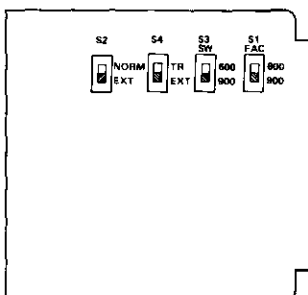

figure 2. 7011 and 7011A option switch locations
3.05 Four switch options must be set before the 7011 and 7011A can be placed into service. Two of these switches, S1 and S3, select the port impedance toward the key-system or PBX line circuit. The other two switches, S2 and S4, select ringing options for the station. The locations of these switches on the module's printed circuit boards are shown in figure 2. Table 2 provides a brief explanation of the function and setting of each switch. Table 2 also con-